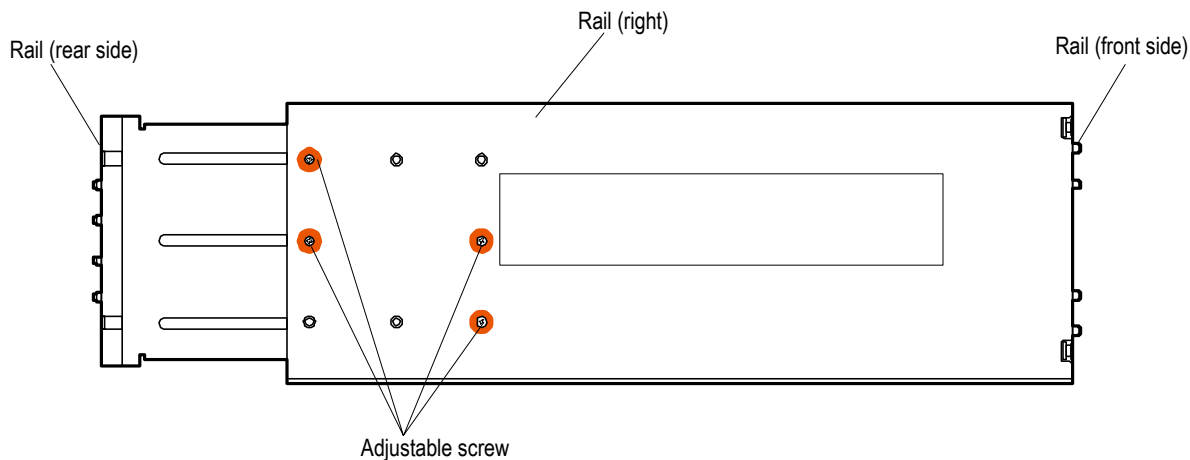

Figure 2.2.33 Installing Rack Rails for Drive Box (5U)
- (a) Loosen the adjustable screws for the rail (R) (four places) (Refer to Figure 2.2.33.)